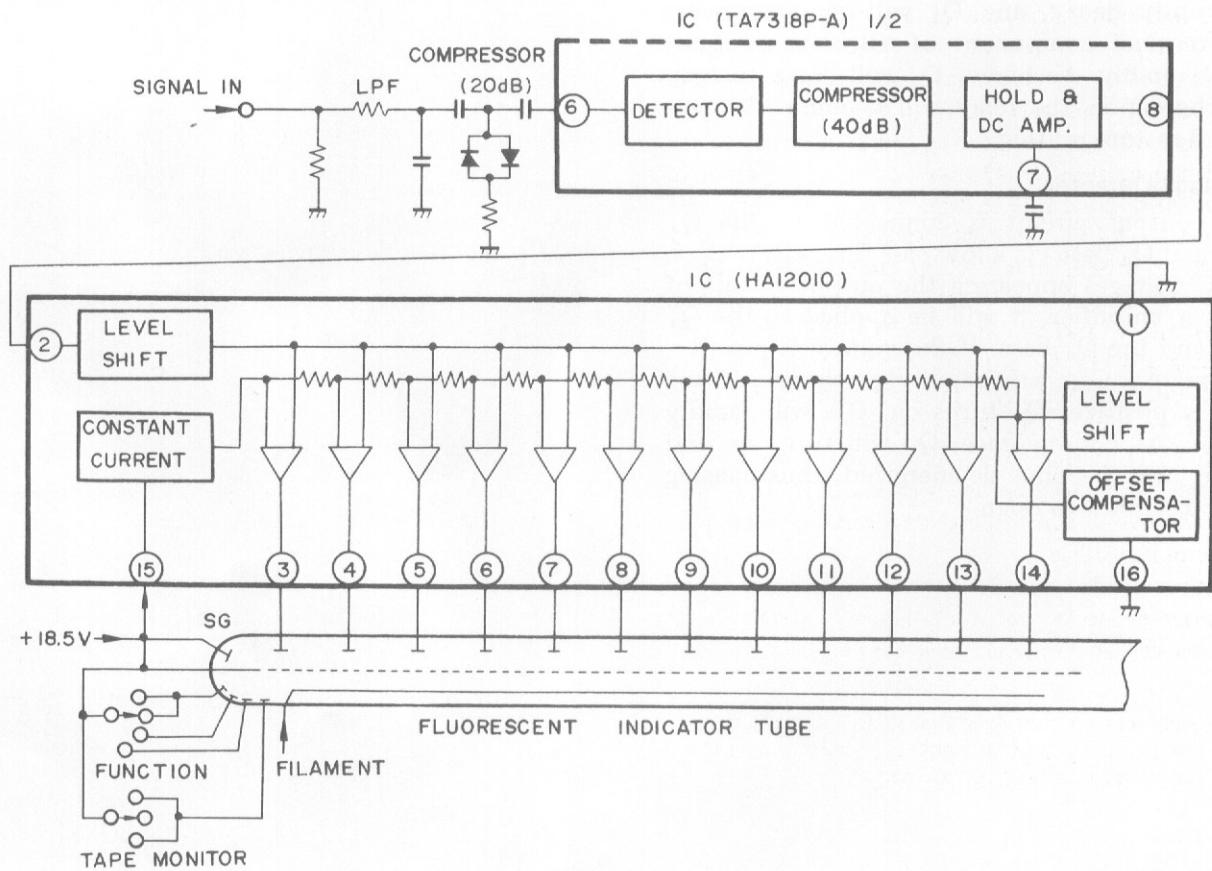

Fig. 5-10 Indicator Circuit
An outline of the FL tube drive circuit is shown in Fig. 5-10. The output circuit signal is first passed through a low-pass filter and a compressor circuit before being applied to pin no.6 (4) of the IC (TA7318P-A). The compressor circuit makes use of the non-linearity of the rising portion of the diode's $V_d - I_d$ characteristics to contract the signal dynamic range by 20dB. The IC contains a detector circuit, compressor (40dB), and peak